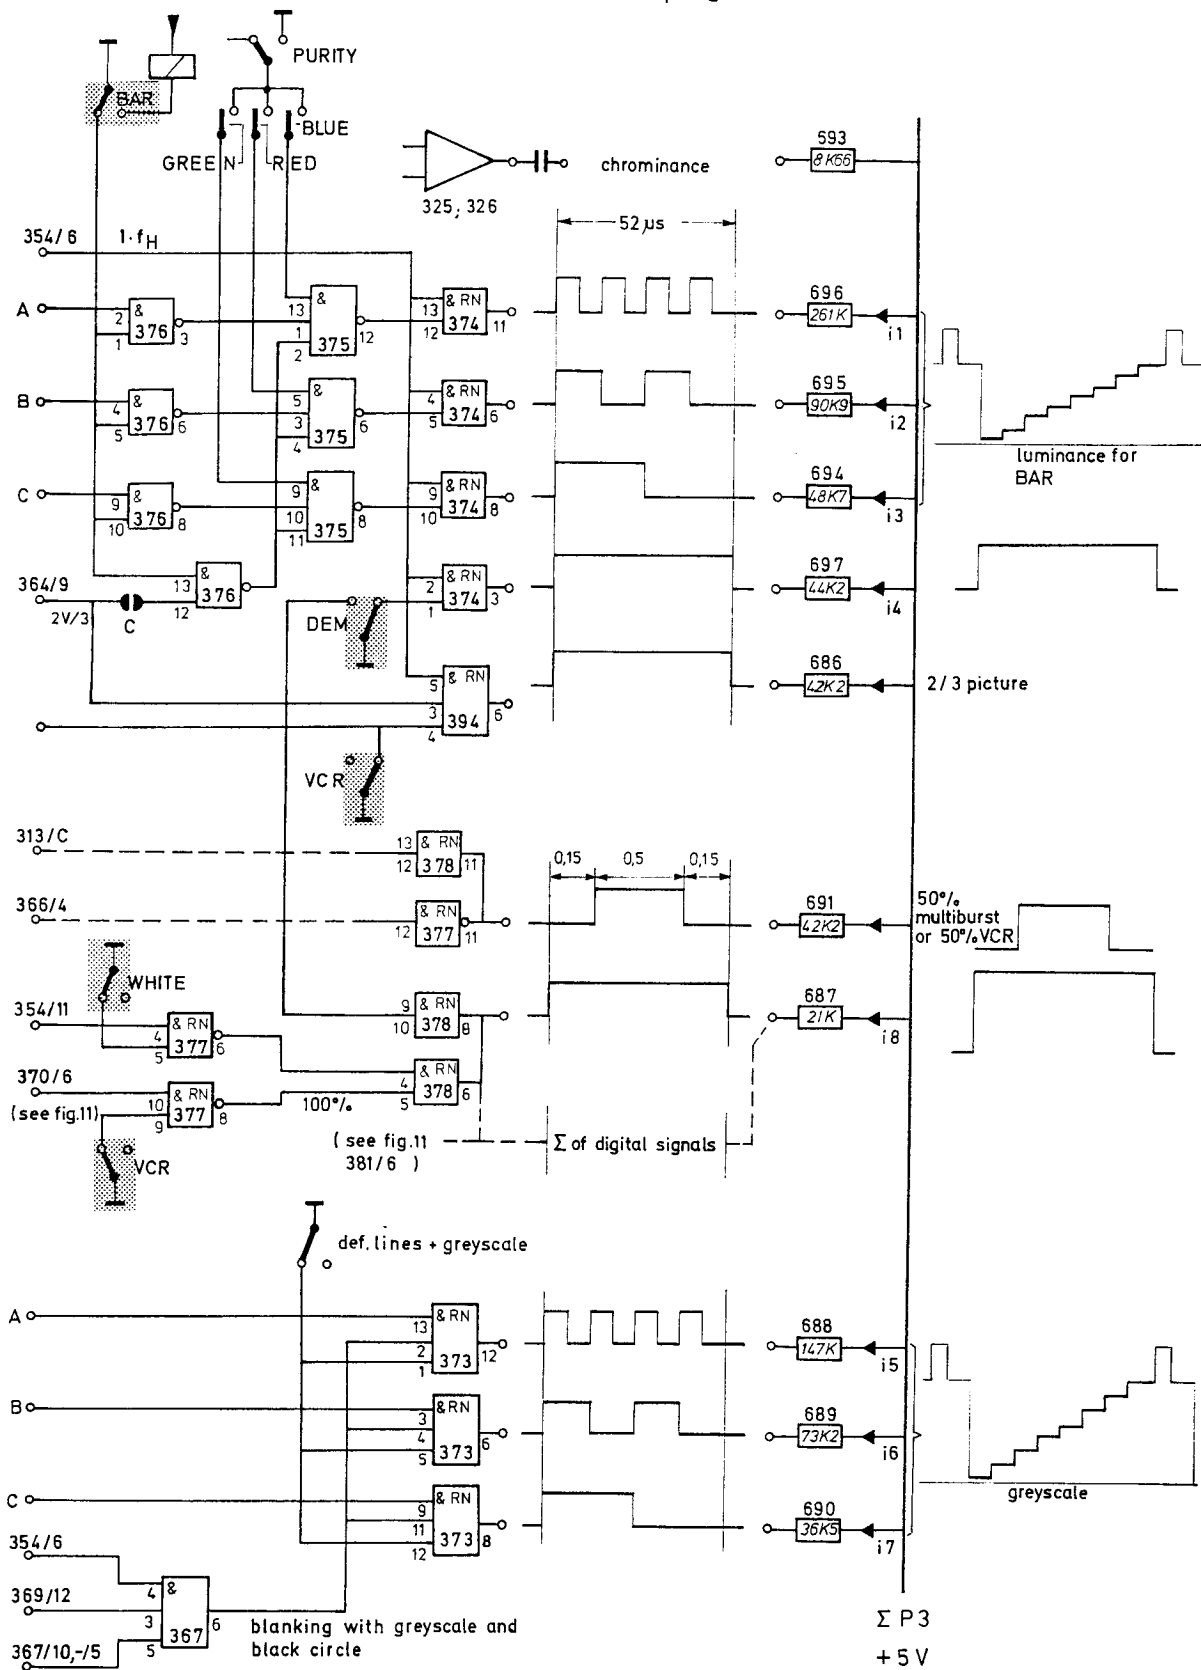

Fig. 13 Greyscale generation
- 2.2.4.3. **The graduated signals for the greyscale** are formed by progressive subtraction of current i_5 , i_6 , and i_7 , see bottom of fig. 13, defined by resistors 688 to 690. During the active line time the resistors are switched to ground by the 8-4-2 coded signals A, B and C.
The luminance matrix 694-696, fig. 13, generates the luminance of the 3 primary and 3 complementary colours and the colour bar luminance.
The luminance of the whole DEM pattern is 50 % white, applied to the summing junction $\Sigma P3$ via the AND-gate 374/3 (see fig. 13). In the first bar of the DEM pattern the component $(G-Y) = 0$. The second bar has no colour information at all. The third bar consists of a $(R-Y)$ component only (but NTSC-coded) and the fourth bar consists only of the $(B-Y)$ component (but PAL-coded).